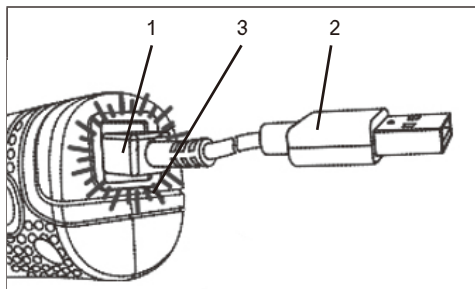

Fig. 1
1. To charge the battery, plug the magnetic end of the charging cable (1) into the matching receptacle on the base of the screwdriver handle (Fig. 1).
2. Plug the charging cable (2) into any USB port such as computer, cell phone charger, cube or even car (Fig. 2). The LED light (3) on the base of the screwdriver handle will glow RED when the battery is being charged (Fig. 1). The LED will glow GREEN when the battery is fully charged.